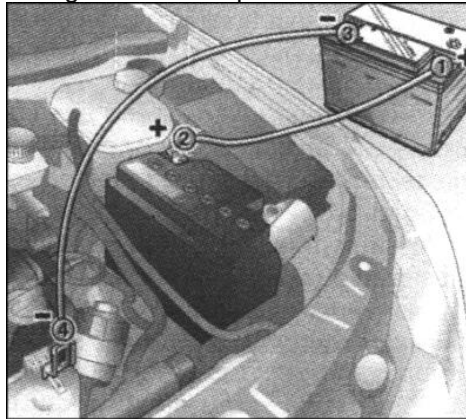

Fig. 1.246. Sequence Connect-cheniya Supplementary Battery
Connect the cables to the one shown in Figure 1.246 sequence.
4. The other end of the second cable 4 connect with a mass of another car - for example, connect to the engine block or a threaded connection suspension engine (Fig. 1.246).